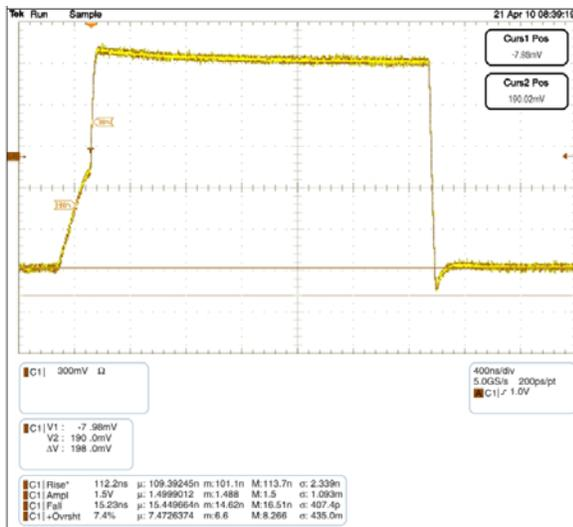

Figure 3. Waveform C: 600 pF,  $R_{PU} = 2.2 \text{ k}\Omega$
to the master in this example, say on the A port, and there is a slave on the B port, the N-passgates act as a low-resistive short between both ports until either of the port's  $V_{CC}/2$  thresholds are reached. After the RC time constant has reached the  $V_{CC}/2$  threshold of either port, the port's edge detector triggers both dynamic drivers to drive their respective ports in the LOW-to-HIGH (LH) direction, accelerating the rising edge. The resulting rise time resembles the scope shot of Figure 3. Effectively, there are two distinct slew rates to the rise time. The first slew rate (slower) is the RC time constant of the bus. The second slew rate (much faster) is the dynamic driver accelerating the edge.
The FXMA2102 dynamic drivers have current sourcing capability and can drive a 400 pF capacitive bus. This is beneficial when an I2C buffer/repeater is required. The I2C specification stipulates a maximum bus capacitance of 400 pF. If an I2C segment exceeds 400 pF, an I2C buffer/repeater is required to split the segment into two segments, each of which is less than 400 pF. Figure 3 is a scope shot of an FXMA2102 driving a lumped load of 600 pF. Notice the (30% - 70%) rise time is only 112 ns ( $R_{PU} = 2.2 \text{ k}\Omega$ ). This is well below the maximum rise time of 300 ns. So, not only does the FXMA2102 drive 400 pF, but it also provides headroom below the I2C specification maximum rise time of 300 ns.